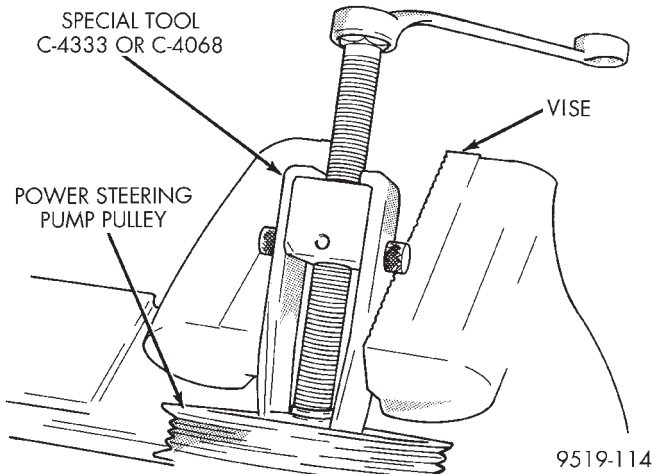

Fig. 57 Removing Pulley From Power Steering Pump Shaft
- (2) Mount Puller, Special Tool C-4333 or C-4068 on power steering pump pulley. Mount power steering pump and puller in a vise (Fig. 57) to keep shaft of power steering pump from turning when removing pulley.
- (3) Remove the drive pulley from the shaft of the power steering pump.
- (4) Remove bolts attaching power steering pump to mounting bracket.
- (5) Remove power steering pump from mounting bracket.